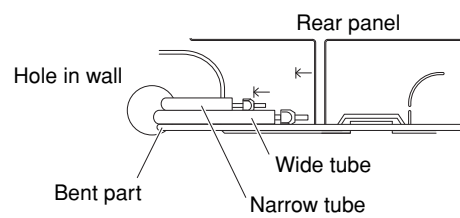

Fig. 38b
- (1) Lead the tubing and drain hose through the wall, allowing sufficient length for connection. Then bend the tubing using a tube bender to make the attachment. (Fig. 38b)
- (2) Switch the drain hose and drain cap.